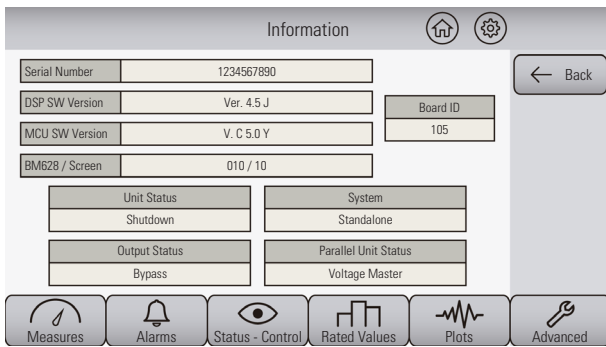

Fig. 40a. Screen displayed when touching over .
- Press over the  icon located in the side menu of the main selected UPS screen. A screen like Fig. 40a will be displayed, where the shown information can differ.
□ The information screen will be displayed. In this screen the UPS hierarchy can be checked under the statement «Parallel Unit Status» and in Fig. 40a it is shown as a «Parallel Master Voltage» example. It is necessary to go to the information menu of the touch screen of each UPS, in order to check its hierarchy as regards to the rest of the system, which is dynamic depending on the status of the rest of the equipments: